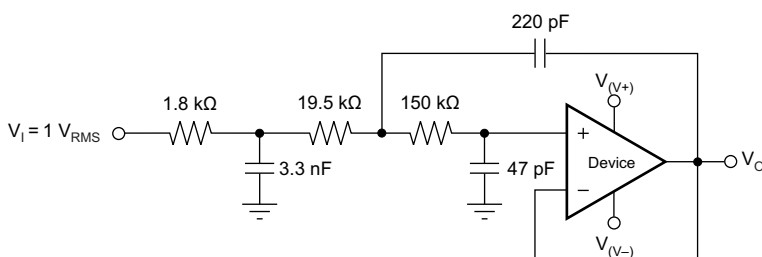

Figure 47. OPAx357 Configured as a Three-Pole, 20-kHz, Sallen-Key Filter
3. Using a noninverting filter topology, such as the Sallen-Key (see Figure 47).